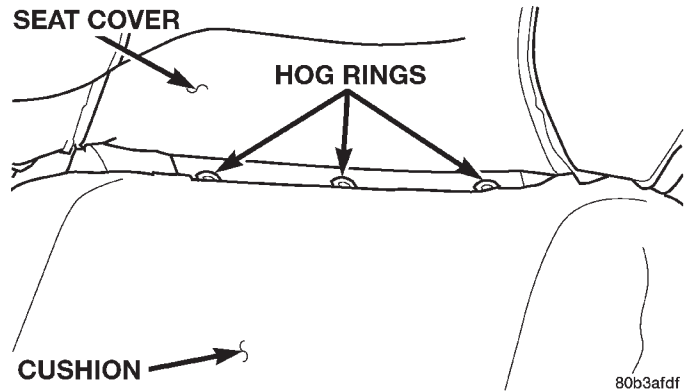

Fig. 7 Front Seat Back Hog Rings
- (6) Roll cover upward to hog rings. Cut hog rings to free cover (Fig. 7).
- (7) Roll cover to top of cushion and remove head rest sleeve guides.
- (8) Remove cover from seat back.